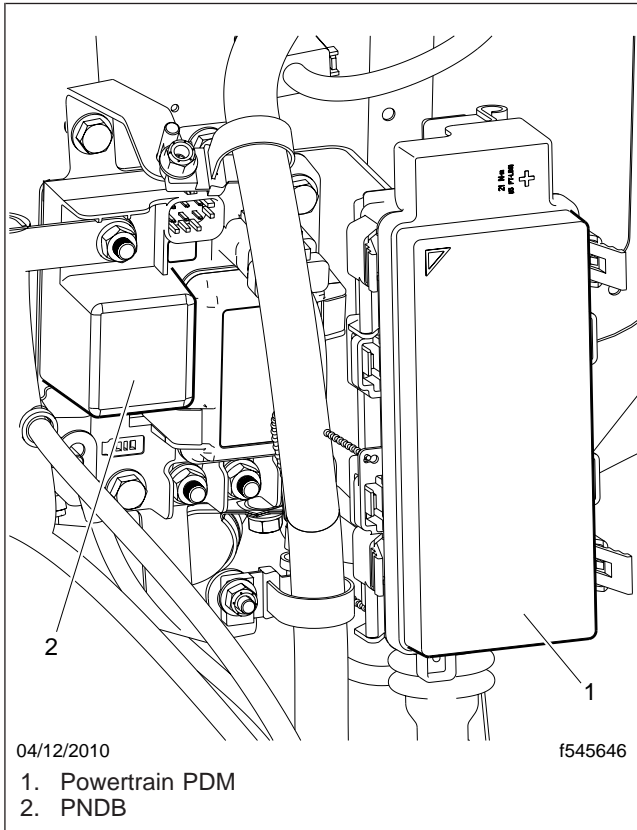

Fig. 3, PNDB on the Frontwall
- 2.12 Insert the other end of wire 433 (green) from the A06-82897-000 harness (A06-83365-000 for the 4700) in powernet distribution box (PNDB) cavity C. See Fig. 3.